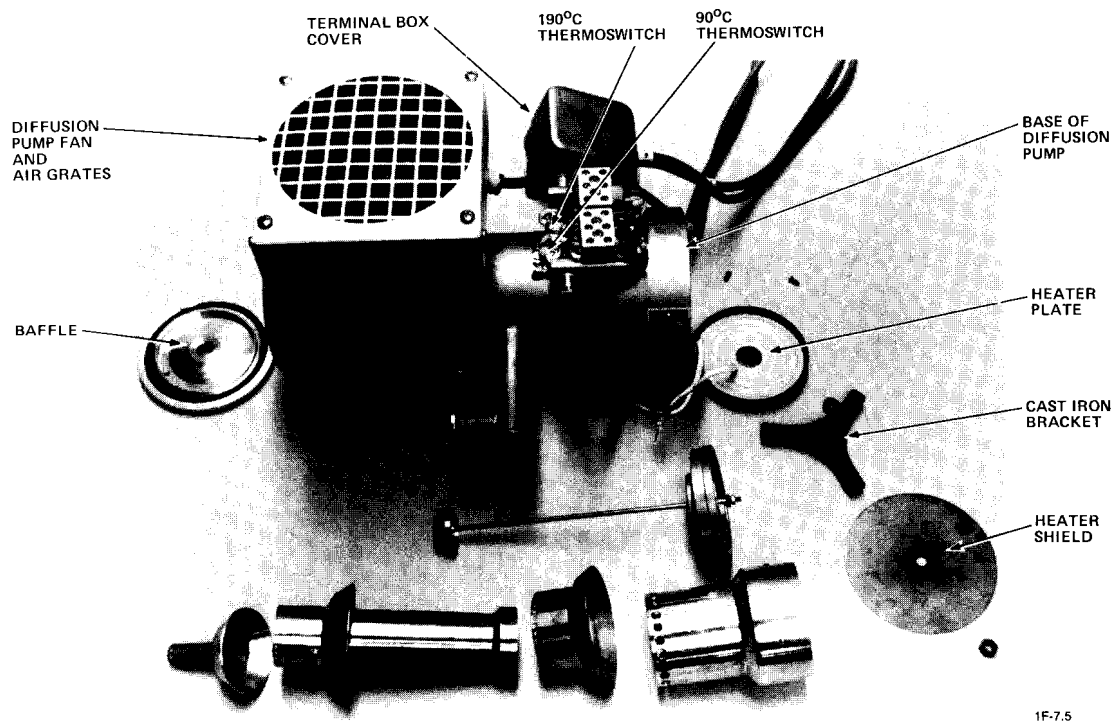

Figure 8-10 - Diffusion Pump with Heater Plate Removed
2. NOTE: You can also check if the thermal switches close properly by using a heat gun to apply heat to these switches (see Figure 8-10).
Proceed as follows to replace a malfunctioning heater on the diffusion pump (see Figure 8-10).